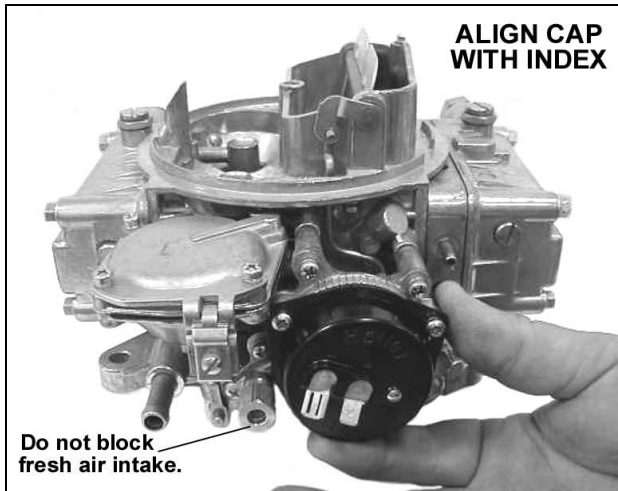

Figure 9
8. Using the three (3) equal length short screws from the kit, fasten the retaining ring and choke cap to the choke housing. Tighten it enough to hold the cap in place, but allow it to be rotated.
9. Rotate the choke cap until the mark on the cap aligns with the index on the choke housing. Tighten the retaining screws so the cap cannot rotate as shown in Figure 9.